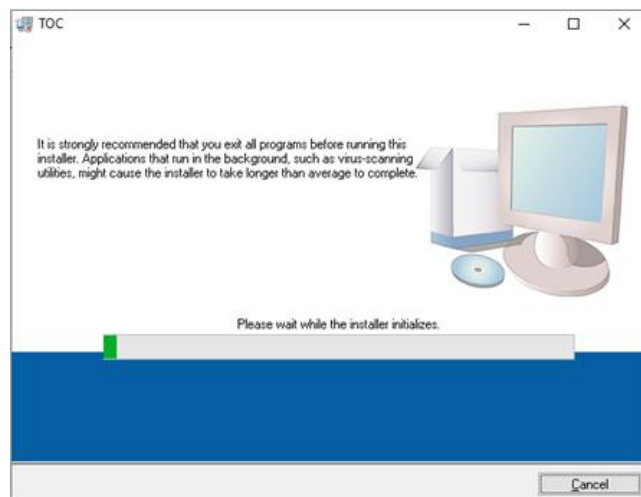

Fig.3.39
6)Click 'Finish' (Fig. 3-39), and the installation is completed.
setup.exe to start the installation (Fig.3.39).